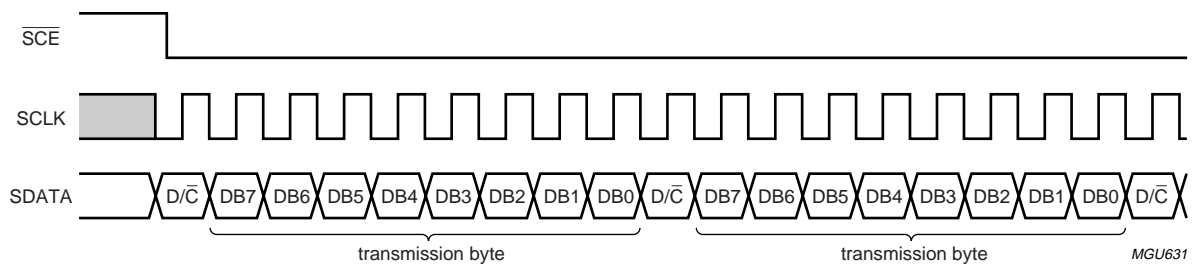

Fig.22 Serial interface (3-line), write mode - transmission of several bytes.
- If \overline{SCE} stays LOW after the last bit of a command/data byte, the serial interface is ready for the $\overline{D/C}$ -bit of the next byte at the next rising edge of SCLK (see Fig.22).